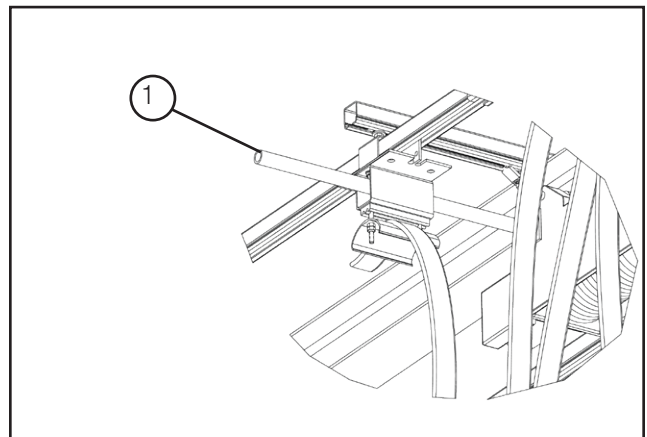

Figure 9-2 1. Tow Bar
1. Place the Tow Trolley / Control Box Trolley into C-Track the same as the Cable Trolley's crossarm support. See **Figure 9-2**.